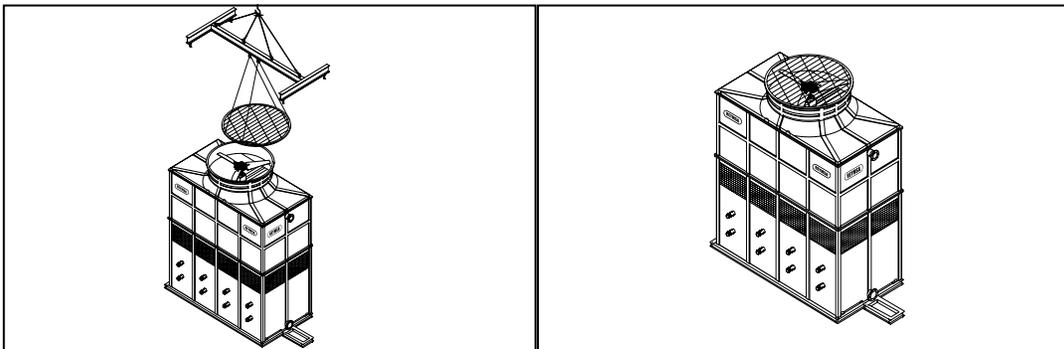

Figure A-32: Screen mesh assembly for HFC-F models
N. Place the corrosion resistant safety screen mesh on top of the Fan Deck Section (see figure A-32).